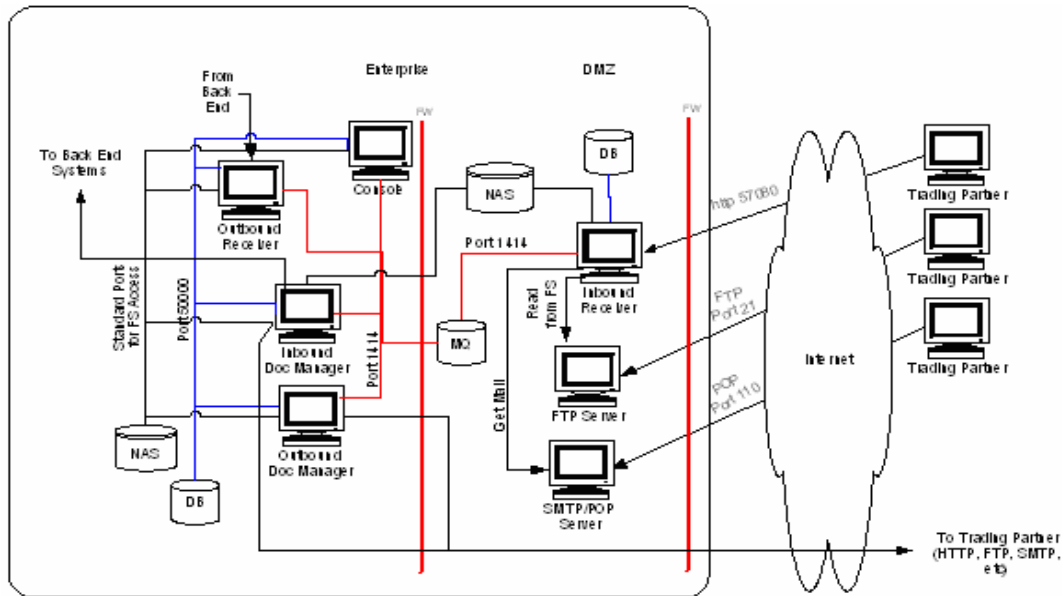

Figure 21. Split deployment scenario
A split file system deployment (as illustrated in Figure 21) is used when you have very strict security requirements. In this scenario, inbound processing and outbound processing are separated so there are no unsecured documents sitting in the DMZ and no inbound connections are made through the inner firewall.
- The Inbound Receiver only needs access to the following tables in the secondary database: PR_RCVCONFIG, PR_RCVCONFIG_LOC, PR_TRANSPORT, PR_TRANSPORT_LOC, PR_DESTTYPE and PR_DESTTYPE_LOC. Although a second Console is not shown in Figure 21, you might need to install a second Console and point it at the database in the DMZ so you can initially configure the Inbound Receiver. After initial configuration, the target information should not often change.